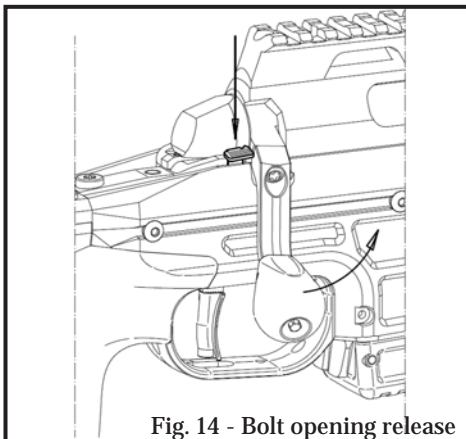

Fig. 14 - Bolt opening release
1. When the safety is ON, open the bolt by pushing the bolt release knob (Fig. 14) and lifting the handle upwards.